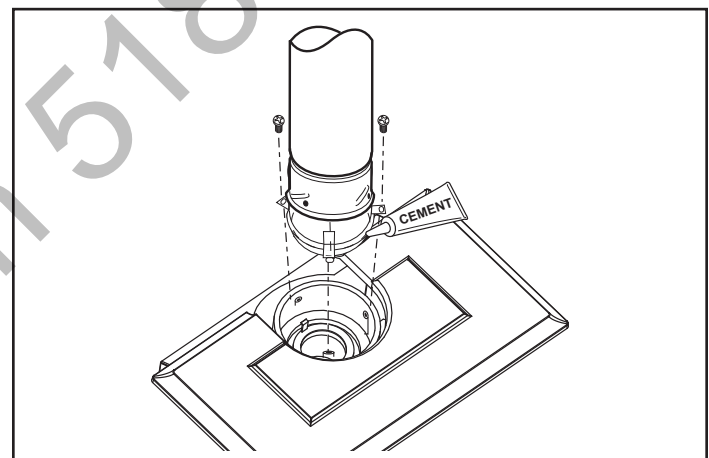

Figure 18 - Attach inner assembly to flue collar.
- Run a bead of sealant around the bottom end of the starter pipe and attach the assembly to the stove using three 1/4-20 x 3/8" Phillips screws provided in the parts bag. (Figure 18)